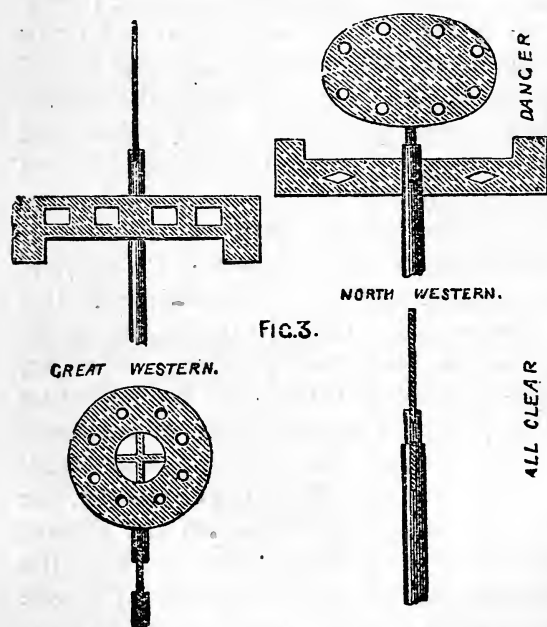

FIG. 3.
The action is of course similar to that of the semaphore: immediately the lever is pulled, the disc turns round and the springs make connection, the armature of the miniature disc is attracted, and by the rack-and-pinion movement the disc is turned into a position corresponding with the outdoor signal. When the disc is turned the opposite way, or to "All clear," contact is broken, the weighted armature falls back, and "All clear" is shown in the signalman's hut. The contact arrangement on the outdoor signal is similar to what would be applied to signals such as are used on the Great Western. To make the miniature signal agree, it is only necessary to fix, instead of the disc, a disc and bar, as in fig. 3.
Fig. 1 is a back view of the apparatus, fig. 2 an inverted plan view, and fig. 3 a vertical section taken in the line 1, 2,
*a* is the handle or lever of the switch apparatus mounted on a centre at *b*, the bearing for which is insulated by being let into a table of wood *c*. Fitted to opposite sides of the switch handle are the spring-clips *a*1 *a*2, which are intended to embrace the divided bridge or insulated segment-plates *d* *d*3, connected by clamping nuts *e* *e*3, to electric wires leading to the terminus *e*2 *e*3. The switch-lever is also in metallic contact with a wire leading to the terminal *e*4. A pin *a*1 at the lower end of the switch-lever *a* projects into the forked end of a bell-crank lever *f*, mounted on the under side of the table, and fitted at its opposite end with a spring catch or tumber *f*1. As this switch-lever *a* is moved it will give a rocking motion to the bell-crank lever, for the purpose to be presently explained. The lower part of the switch-lever has a notch cut in its edge to receive a sliding bolt *g*, by which it is locked in its normal position. This bolt is carried by a slotted guide-bar *g*1 through the slots of which screws are passed for securing it to brackets attached to the under side of the table. This guide-bar is provided on its face with a pin *g*1, against which the spring-catch *f*1 is intended to strike in one direction of its motion, for the purpose of driving that bar forward, but on its return motion the spring-catch slides over the pin. Upon the edge of the guide-bar is a second pin or projection *g*3, through which the bar receives an endway motion in the opposite direction to that imparted by the bell-crank. This pin *g*3 is acted upon by a pendant-lever *h*, which is itself acted upon by a vertical rock-lever *i*, fig. 4, connected at its lower end to a sliding-rod *k*; this rod *k* is caused to bear against a horizontal-lever or switch *l*, applied to the railway track, as shown at fig. 4; and in plan view at fig. 5, a spring *m*, or a weight, being used to keep the rod up to its bearing. Supposing now a train to be passing along a line fitted with the locking apparatus above described in the direction of the arrow, fig. 5, the switch or lever *l* will, by the lateral pressure it will receive from the flange-wheels passing between it and the fixed rail, be rocked, and it will thus give an endway motion to the rod or tracker *k*, which will in its turn rock the levers *i* and *h*, and the latter, striking against the pin on the bar *g*1, will drive it and the bolt which it carries into the dotted position of fig. 2. The switch-lever will, therefore, be free to be moved from the drawn to the dotted position of fig. 3, for the purpose of operating a distant signal.
As this apparatus is specially adapted for use with Mr Preece's block-signal telegraph apparatus, in which the semaphore arm is maintained by a weight and depressed by the action of the electric current, it is used in the following manner, viz. :—The terminal  $e^2$  is connected with the earth, the terminal  $e^3$  with the battery, and the terminal  $e^4$  with the line wire. When, therefore, the hand-lever is in the drawn position of fig. 3, which is its normal position, there is no current passing through the distant signal apparatus which the switch apparatus is intended to control, and the block-signal is consequently up; on the other hand, when the hand-lever is in the dotted position, the current will pass through the distant signal apparatus, and retain the semaphore arm at the depressed position, thereby indicating "line open." If now the signalman at the distant station A signals to the man at station B, that a train has started from A in the direction of station B, the duty of the receiver of this signal will be immediately to raise the block-signal at station A; this he will do by throwing over the switch-lever B into the drawn position; but in the act of doing this he will cause the bell-crank lever  $f$  to strike the pin  $g^2$  on the sliding-bar  $g^1$ , and throw the bolt  $g$  into the notch of the switch-lever; the lever will therefore remain fixed, and be beyond the control of the signalman at station B. As soon, however, as the advancing train passes the switch or lever  $l$ , and sets the rod  $k$  and lever  $i$   $h$  in motion, as above explained, the guide-bar  $g^1$  and bolt  $g$  will be returned to the dotted position of fig. 2, and the signalman will then be able to set his switch apparatus in action. If, however, he should delay in communicating the proper signal to station A that the line is open, no casualty can arise, the only inconvenience being the undue blocking of the line.